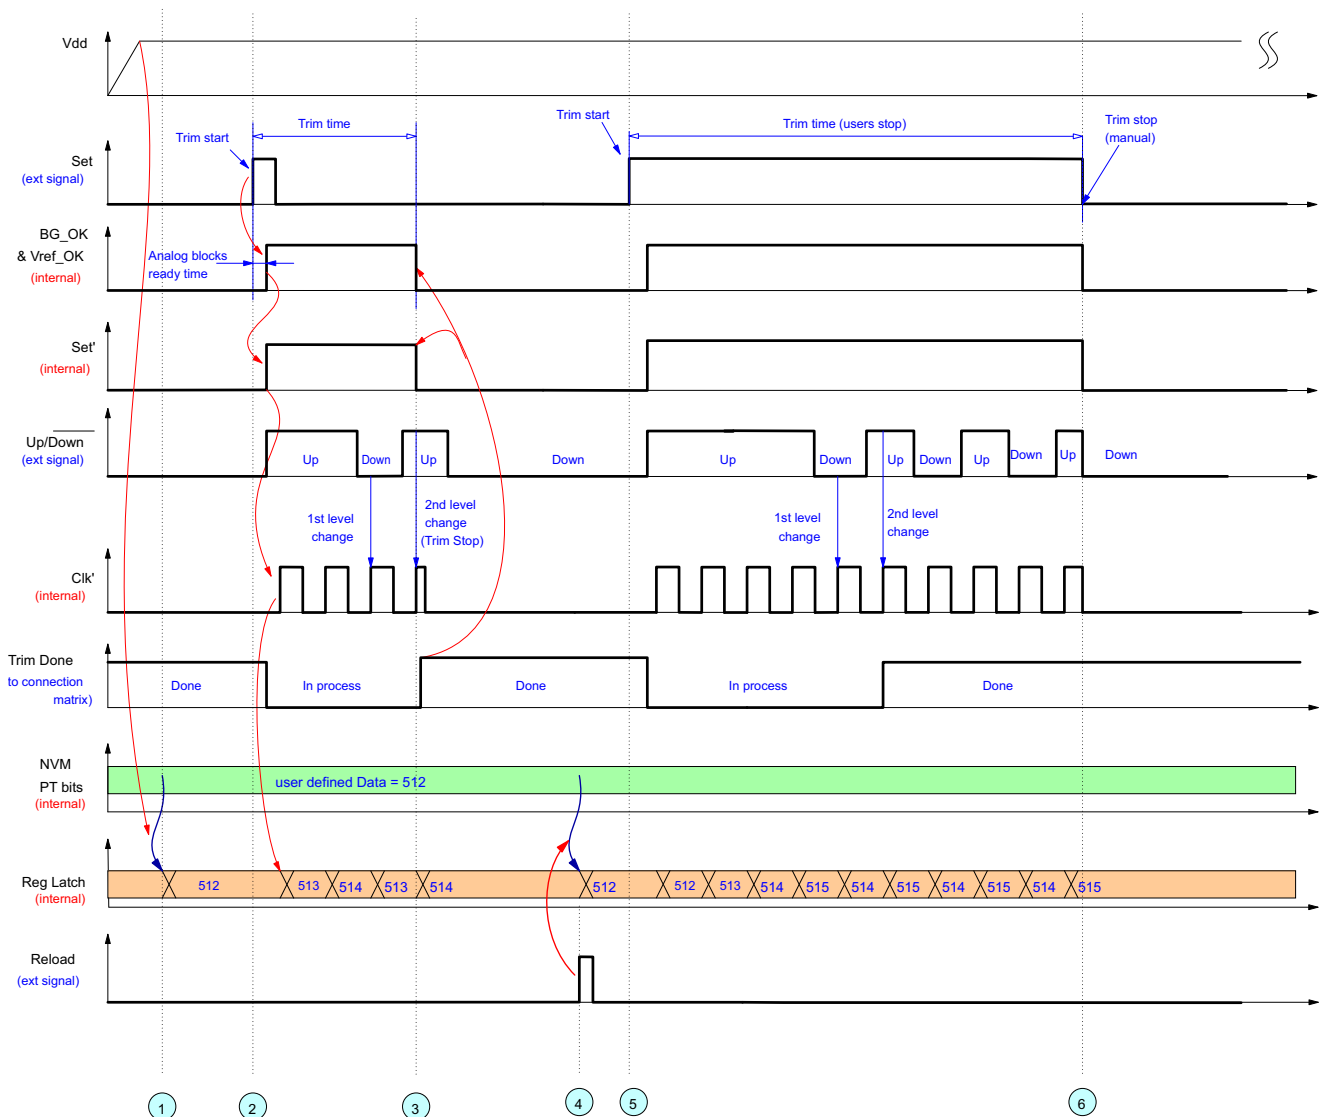
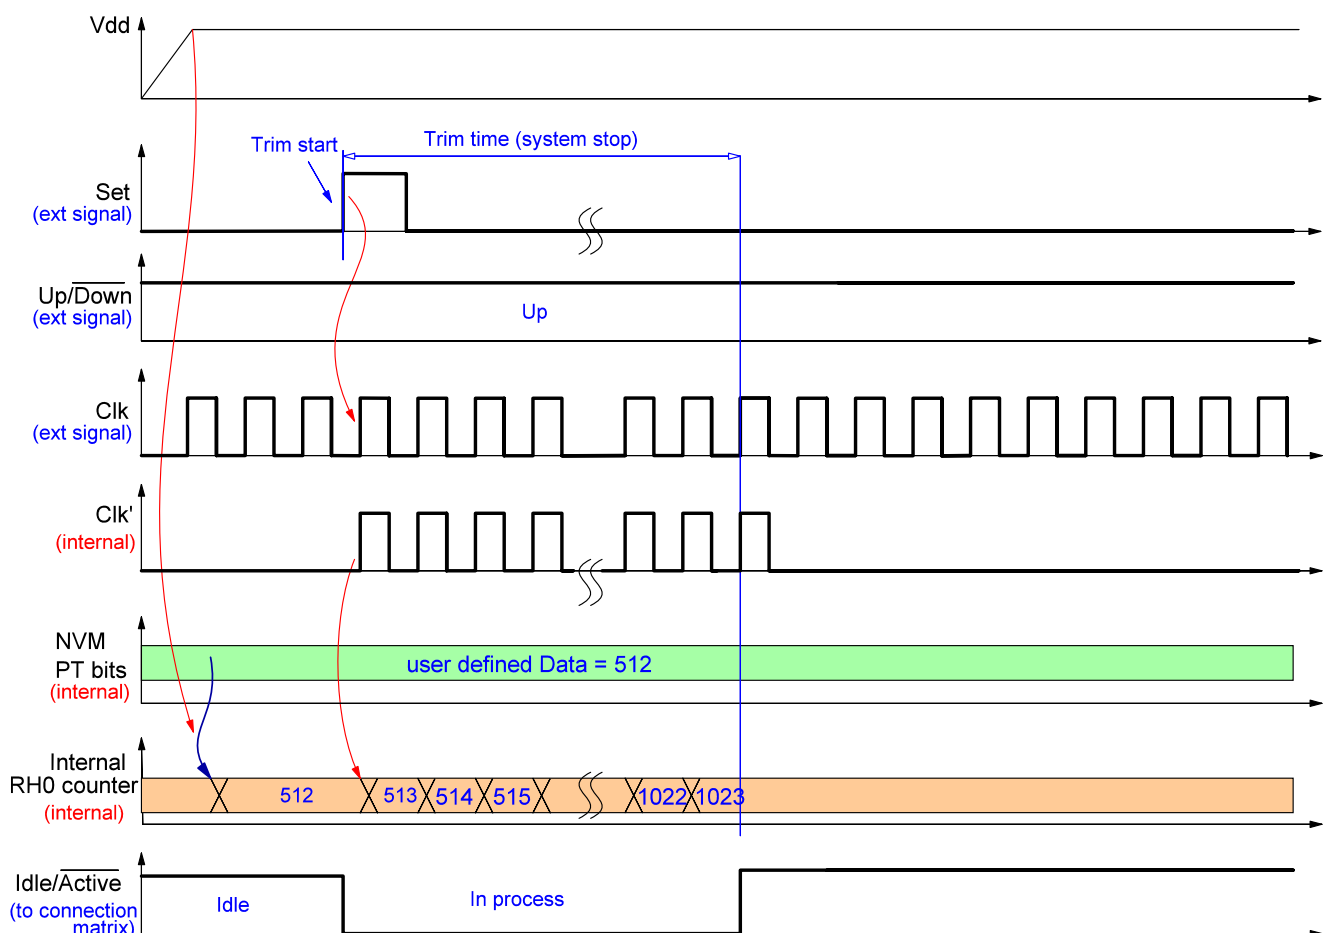
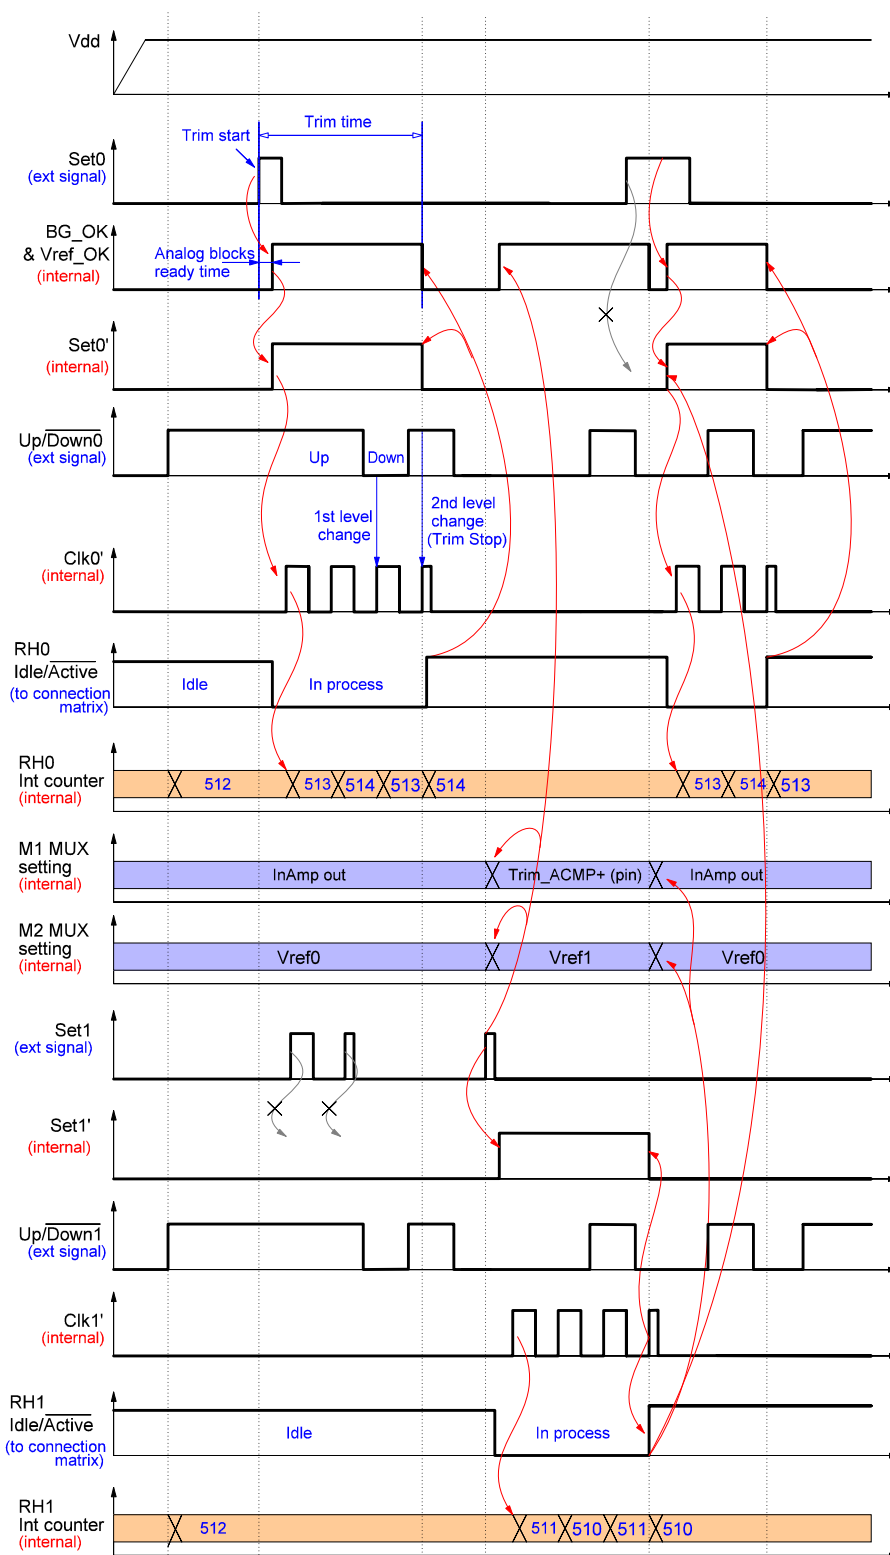

Figure 177. Example of Auto-Trim Process for a Single Rheostat
Figure 178. Example of Auto-Trim Process with External Clock Signal
Figure 179. Example of Auto-Trim Process for Two Rheostats
- 2nd time change on Up/Down input at the moment of rising edge on Clock input (see Figure 177).
- the value of rheostat reaches its minimum (0).Stop conditions result in a change of the Idle/Active signal, which resets the internal Auto-Trim logic.
The detailed flow of Auto-Trim process is shown in Figure 177, Figure 178, Figure 179.
The key events of the Auto-Trim process are the following (see Figure 177):
If the Set input signal is shorter than the trim time, the Auto-Trim process stops automatically after a stop condition occurs (event 3, Figure 177). However, if a stop condition comes and High logic level holds on the Set input, the rheostat value will be switched near the set point until a Low level on the Set input occurs (event 7, Figure 177). Note that the Idle/Active signal changes its level to High (Auto-Trim is done) even if the user keeps a High logic level at the Set input.
Figure 178 shows a similar Auto-Trim example. The only difference is that the user defined clock source as “External clock” from connection matrix. The clock pulses are present at the Clock input all the time, but have effect (rheostat value changes) during Trim time only. The stop condition for this case is the following: PT block reaches boundary value of 1023 and the logic level at change Set input is Low.
Figure 179 shows Auto-Trim process flow for two rheostats.